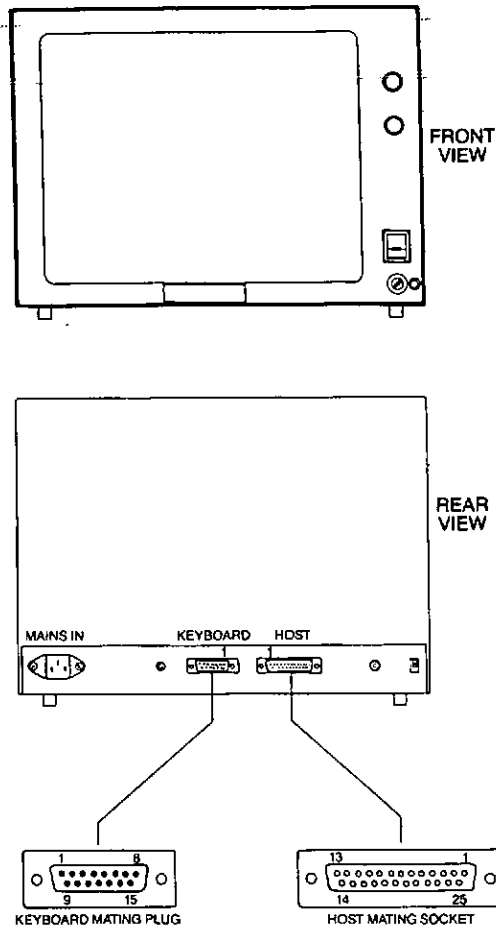

Figure 1.1 Supervisor Industrial Terminal (SIT)
- o Supervisor Industrial Terminal (SIT) - a ruggedised free-standing heavy-duty monochrome (16 grey-level) terminal with detachable Cherry keyboard and optional clear or red screen filters, for industrial and military applications. This is also available in a monitor-only version (SIM) for use with DMA boards. See Figure 1.1.